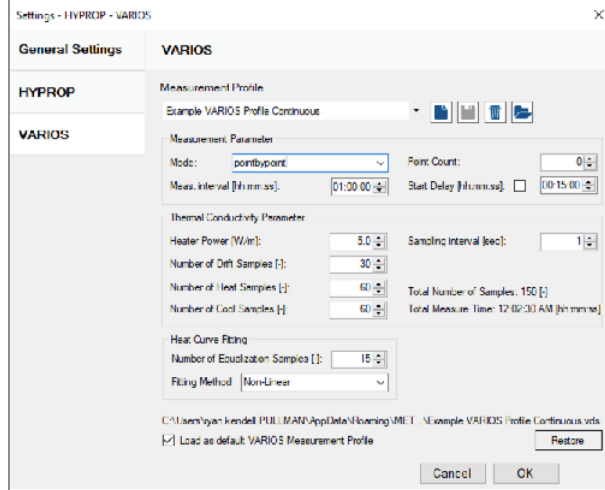

Figure 26 Example VARIOS point-by-point measurement profile
- VARIOS continuous measurement mode (Figure 26)